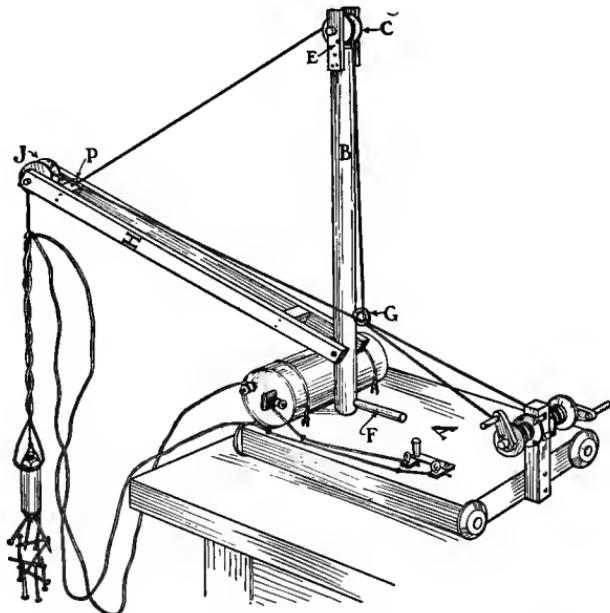
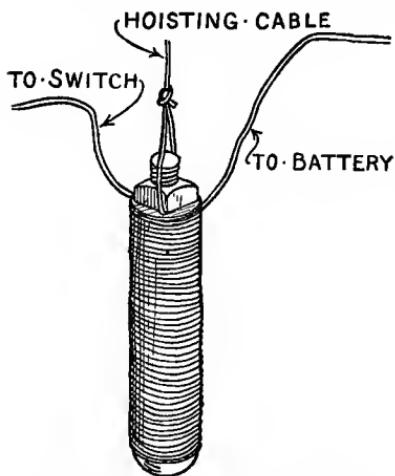

FIG. 267.—An Electro-Magnet Derrick. (See Frontispiece.)
FIG. 268.—The Electro-Magnet. (For details see Figs. 253-255.)
An **Electro-Magnet Derrick** like the one shown in Fig. 267. (See also photograph in *Frontispiece*.) Lots of fun
The **Electro-Magnet** is shown in Fig. 268, and Figs. 253 to 255, page 143, show details for making it. One end of
(A, Fig. 267). The *mast* (B) is a piece of broom-handle or curtain-pole 16 inches long, and fits loosely in a hole bored in the base. Figure 269 shows a detail of the mast. The *pulley* upon its upper end (C) is made of two spool-ends nailed together (Fig. 270), and it turns upon the axle D, which slips through holes in the *plates* E nailed to the end of the mast. The *lever* F sticks in a hole in the mast, close to the platform. This is used to swing the *boom* from side to side. Screw-eye G is placed several inches above F to serve the purpose of a pulley to guide the hoisting cables.
cut axle *M* enough smaller than the spool drums *N* so they will turn easily. Fasten a crank and handle to one end of each spool, and drive a brad through each end of the axle to prevent the drums from sliding off. Cut four notches in the inner flange of each spool, as shown, and pivot the catches *O* to the post *L*, in the positions indicated, so they may be thrown into the notches to lock the windlass (Fig. 267).
**The Hoisting Cables** should be made of strong cord. Fasten one end of the cable for raising the boom to a nail (*P*, Fig. 267), and run this cord up and over the mast pulley, then down through screw-eye *G* and over to one drum; tie it securely to the drum so it will not slip around. The other cable should be fastened between the nut and washer of the magnet, as shown in Fig. 268, run up and over the boom pulley *J*, then through screw-eye *G*, and tied to the second drum.
Figure 267 shows how the dry-cell may be strapped to the base board in front of the mast, and how the wires that connect the electro-magnet, switch, and cell should be twisted around the hoisting cable, part way, and the